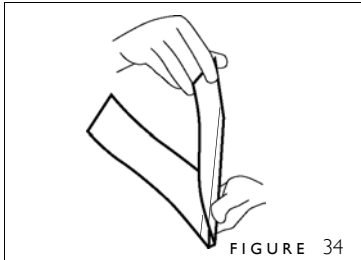

FIGURE 34
1. Pre-fold your cover at the two scores that represent your spine edges (figure 34). **These are the scores that are the same distance apart as the thickness of your book block.**